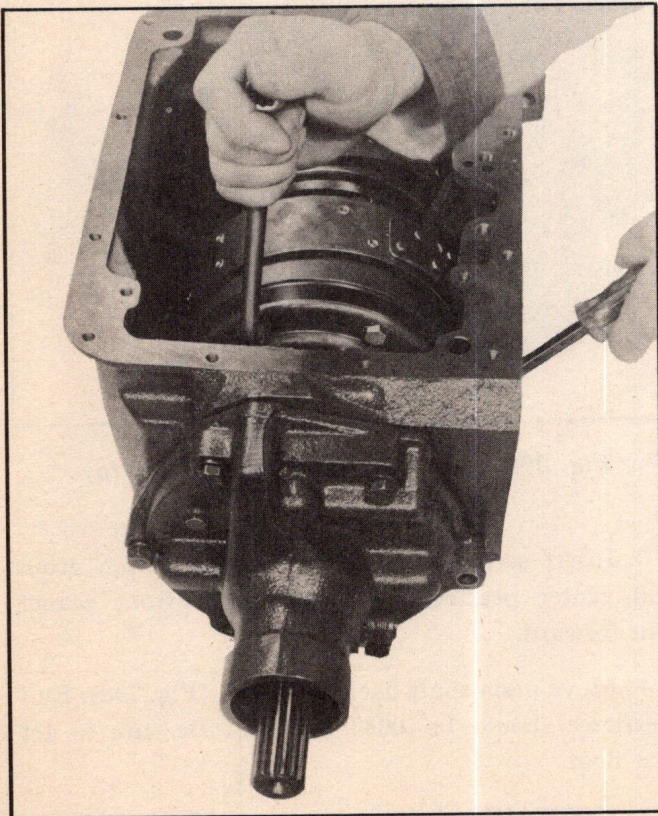

Fig. 294—Installing Reverse Drive Flange Attaching Screws
8. Align holes in reverse drive flange and rear drum and install six reverse drive flange bolts and lock washers (Fig. 294). After two bolts are entered finger tight, remove screw driver. Tighten bolts to 10-13 ft. lbs. torque.